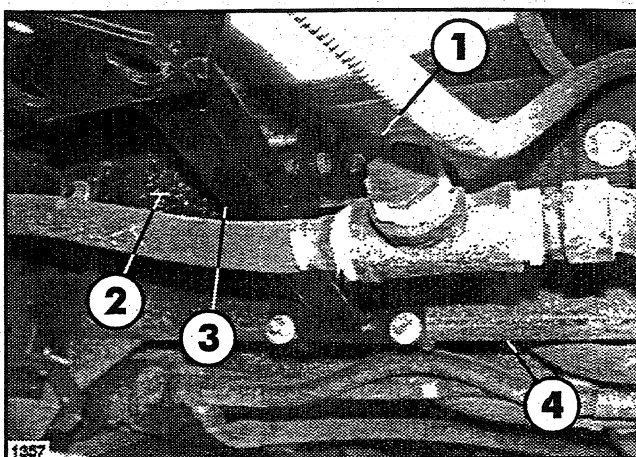

FIG. 3
2. Loosely attach Mounting Angle to Frame Cross Angle using (2) 1/2 x 1-1/2" cap screws, washers and locknuts. See FIG. 3.